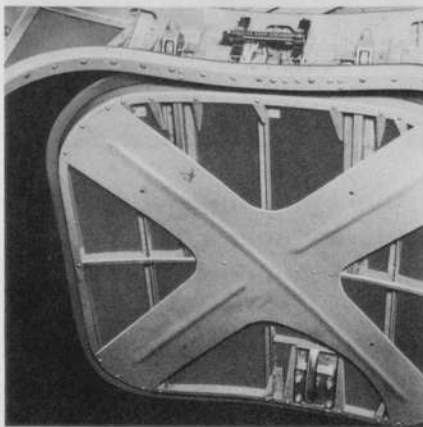

Figure 120 - Bottom Escape Hatch - Looking Forward
a. Navigator's and Bombardier's Compartments. - Through door in aft bulkhead and out the bottom escape hatch (front entrance door, figure 120).
- (1) Out the bomb bay.
- (2) Out the front entrance door.
(b) The bombardier releases and stands by the front entrance door. (See figure 120.)